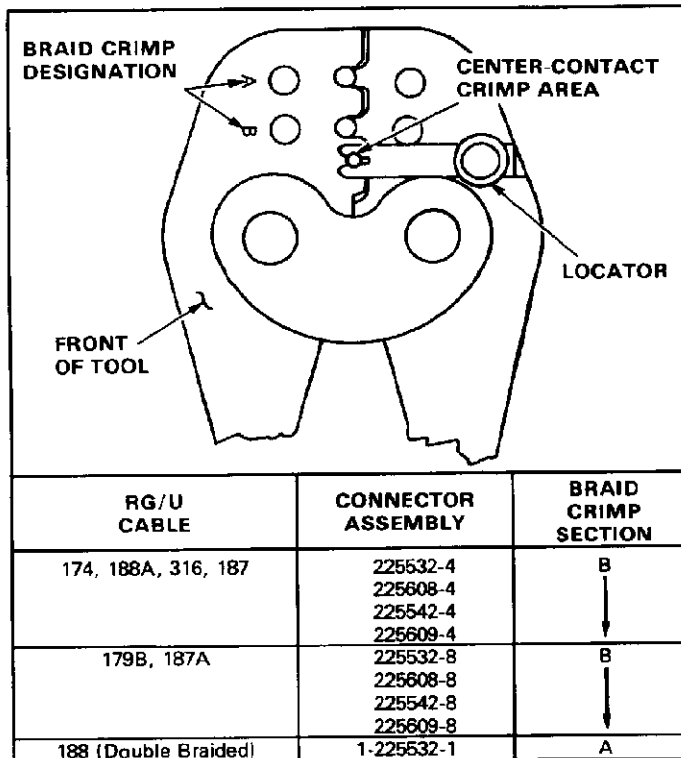
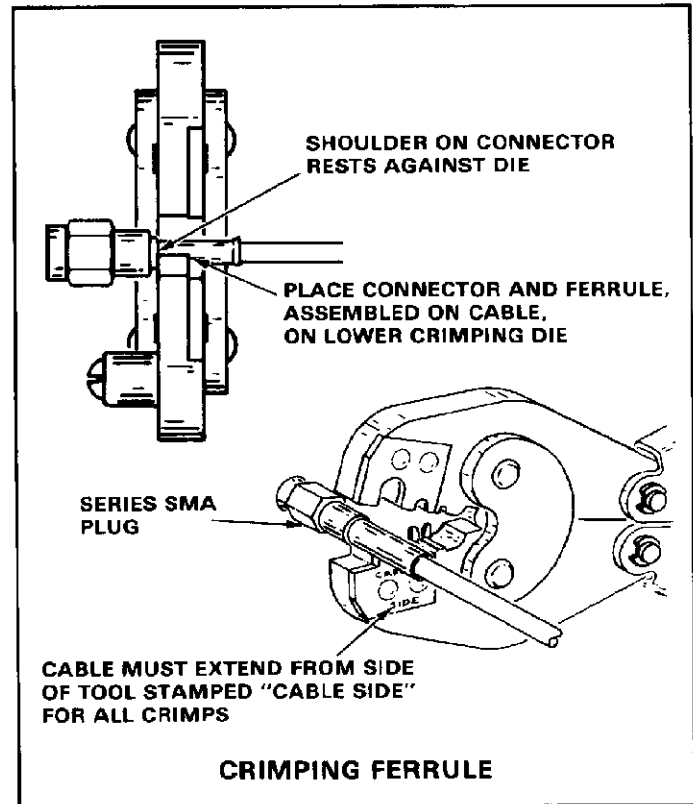

Fig. I-1
Fig. I-4
This Instruction Sheet (IS) covers application and maintenance procedures for AMP Hand Crimping Tool 59962-1 which crimps the AMP Series SMA 50-ohm R.F. Connectors for flexible cable listed in Figure I-1.
Select an applicable connector for the cable you are using from the chart in Figure I-1. The crimping procedure is as follows:
- crimp section of tool (Figure I-1). See Figure I-4.